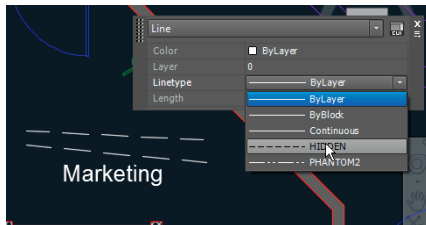

FIGURE 6.25 Changing a specific object property
5. Select the continuous line drawn in step 2, and change its Linetype property to Hidden (see Figure 6.25). Press `Esc` to deselect.